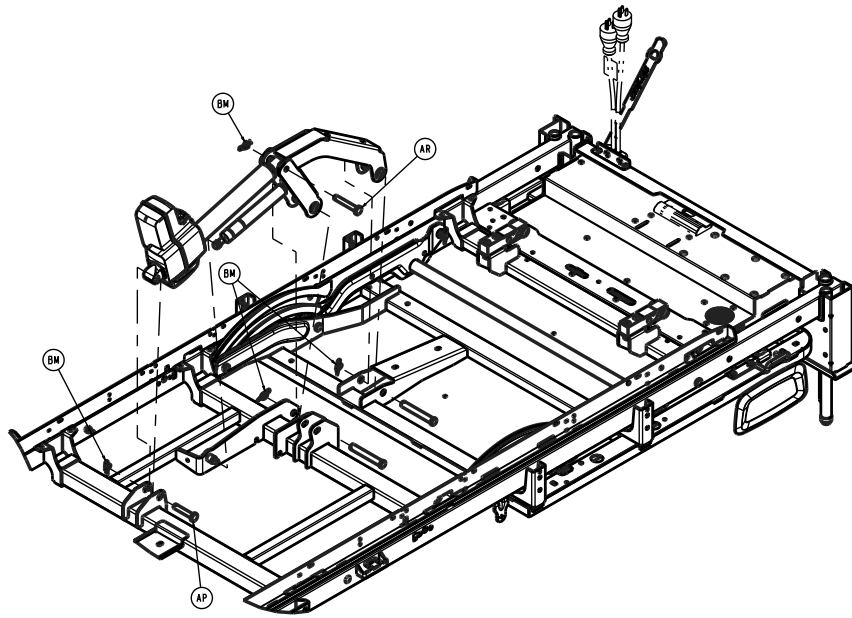

Figure 42 – Removing the upper Fowler actuator link rue clip
24. Using needle nose pliers, while you support the Fowler weldment, remove the upper Fowler actuator link rue clip (Figure 42).
26. While you continue to support the Fowler weldment, remove the Fowler actuator link clevis pin (Figure 42).